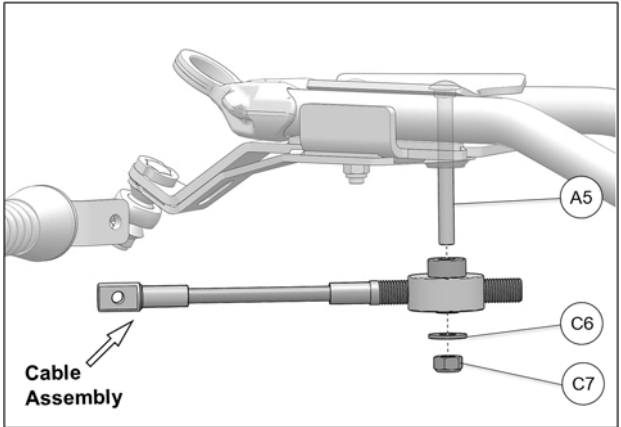

Fig. 27
18. Slip steering limiter cable assembly over M10x105mm carriage bolt (A5) and use washer (C6) and nut (C7) to secure assembly to anchor bracket. Tighten nut to 50 N•m [37 lb•ft]. Refer to Fig. 27